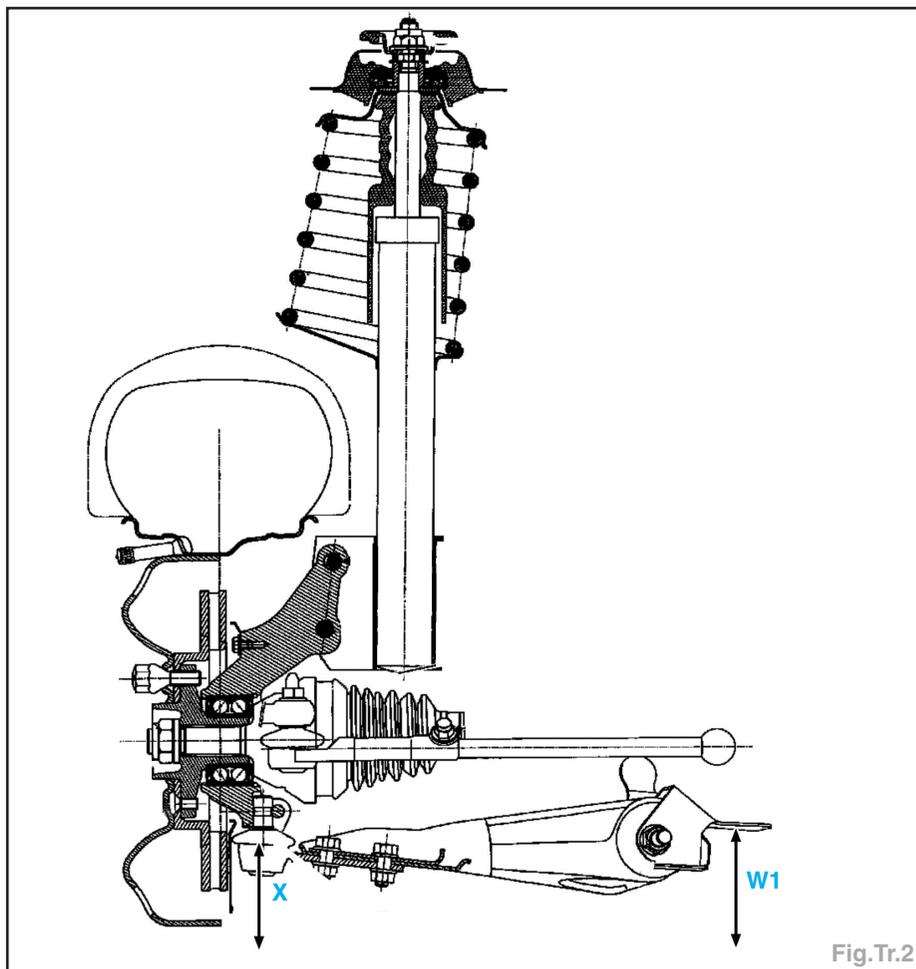

Fig.Tr.2
- Mesurer la cote **W1** (Fig.Tr.2).